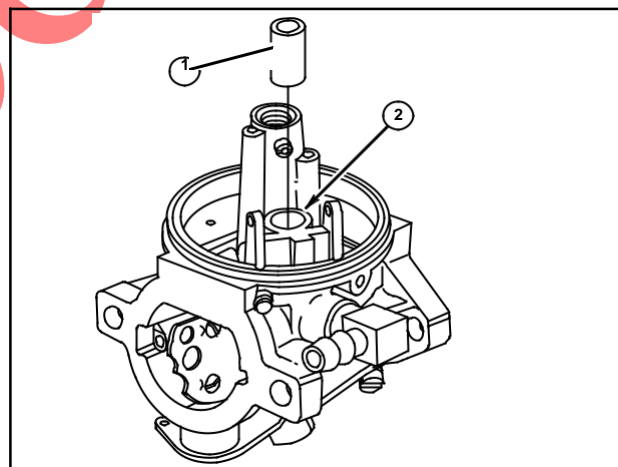

Fig. 109
Press fuel inlet seat (1) in until flush with surface shown in (2), Fig. 109.